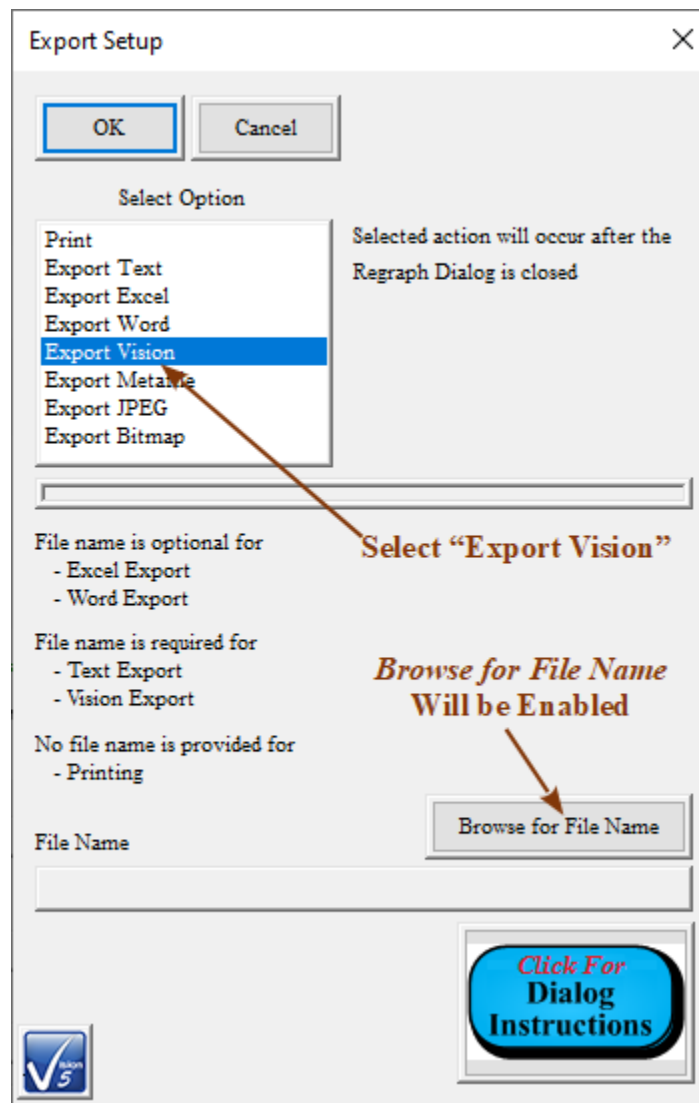

Figure 7 - Standard Vision Export Dialog. Select "Export Vision".
7. On the QuikLook Results dialog click *Export*. The standard export dialog will appear as in **Figure 7**.